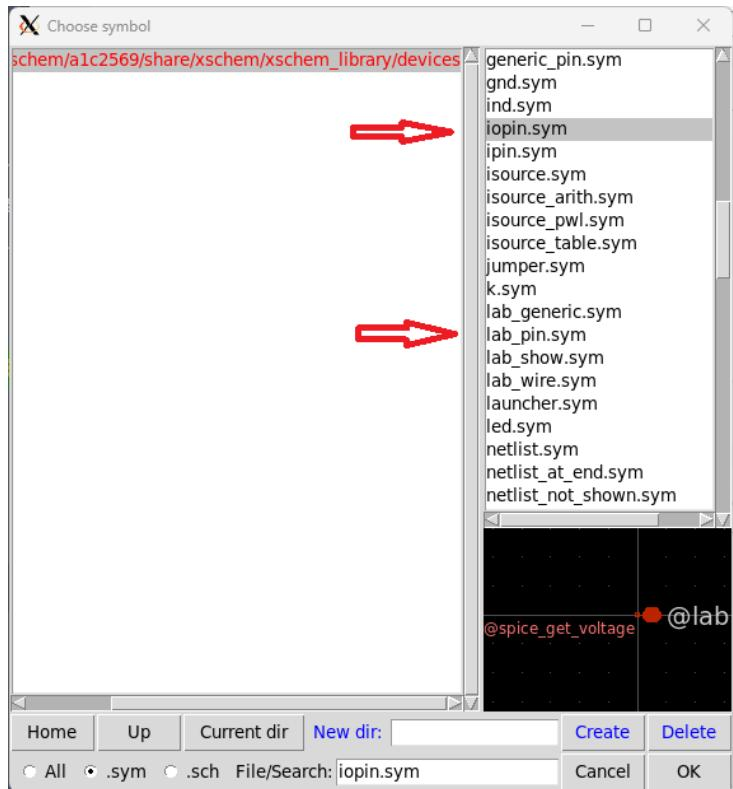

Figure 4: Path and component for pins and labels instantiation
- To create **pins** or **labels**, use any of the insert component shortcuts and go to the xschem library. You can find this library written in red when you press the Home button. Enter to **devices** and select *iopin.sym* and *lab\_pin.sym* respectively for pins and labels, like is shown in Fig. 4.